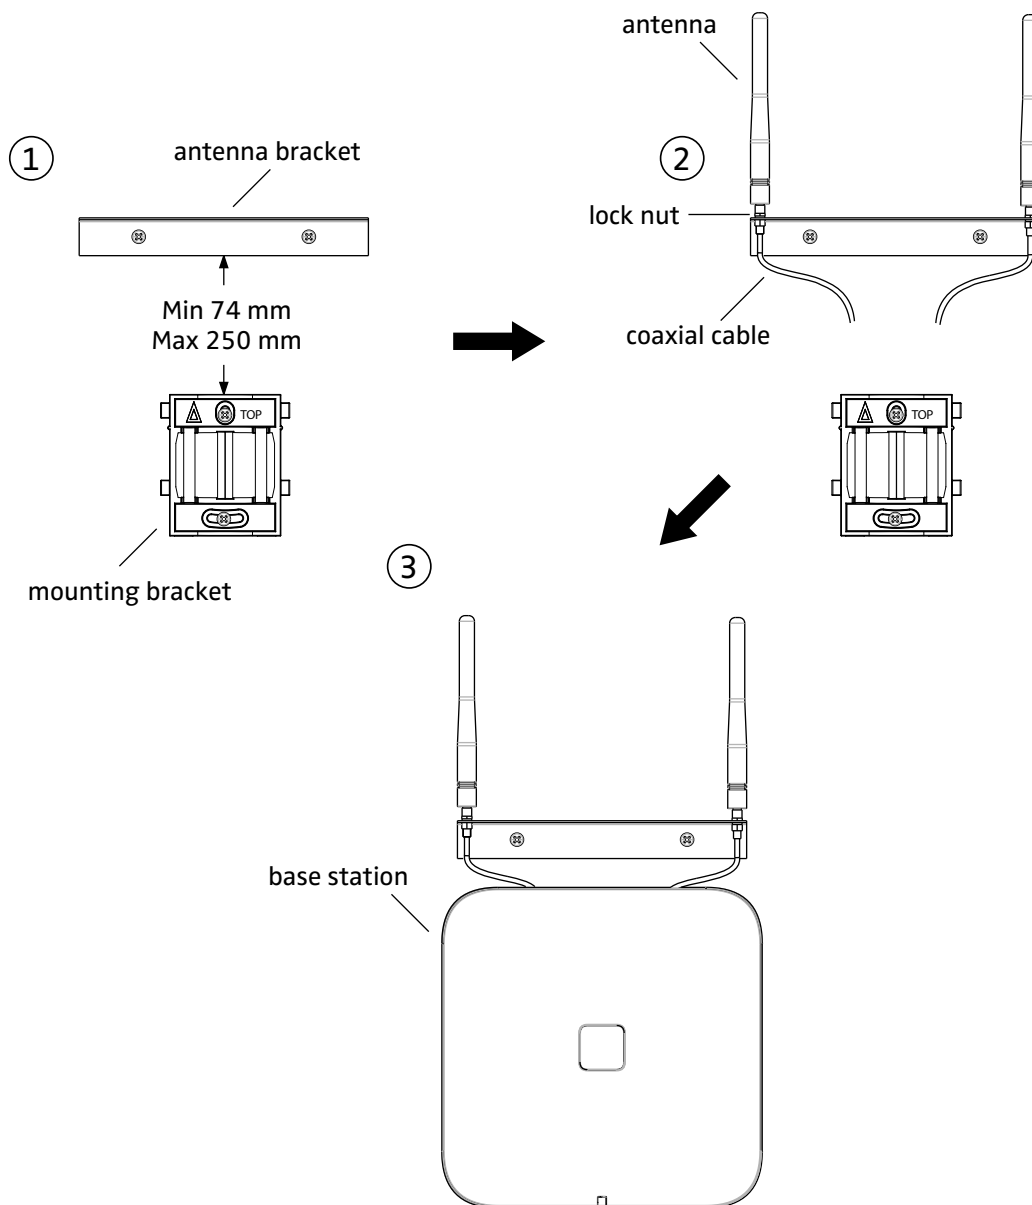

Figure 10. Connect external antennas.
- 1 Position the included antenna bracket above the mounting bracket with a minimum distance of 74 mm (250 mm maximum) and mark the two holes for the antenna bracket, see figure 10 on page 19 (1).
- 4 Mount the two included coaxial cables on the antenna bracket figure 10 on page 19 (2). Fasten the coaxial cables with the lock nuts which are found on the coaxial cable antenna connectors.
- 5 Mount the antennas on the antenna connectors (2).
- 7 Mount the base station (3), see 3.2.9 Mount the Base Station on page 21.